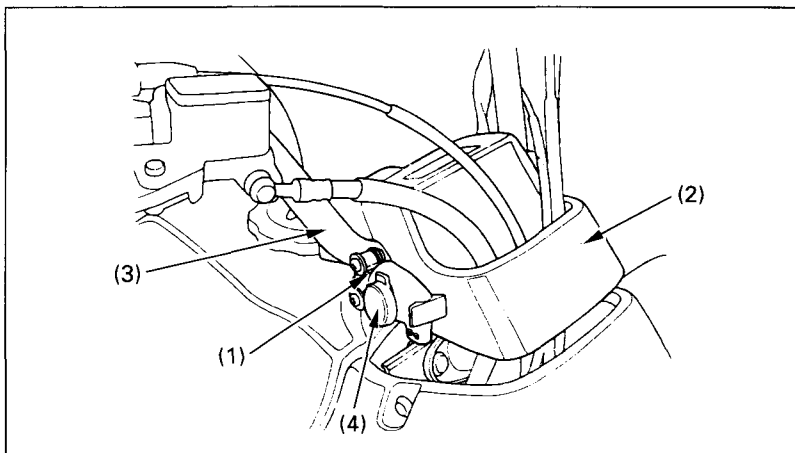

Fig. 2-24 (1) 12 V DC receptacle (3) Right handlebar
The DC receptacle (1) (Fig. 2-24) is attached to the right handlebar, near the handlebar cover (2). The receptacle provides 12 V DC power at a maximum of 180 watts (15 amps). If you exceed this limit, you may blow the fuse. (For information on fuses, and how to replace a fuse, see pages 117–118).
(2) Handlebar cover (4) Special DC plug
Electrical accessories may be connected to the receptacle by using the special DC plug (4) (Fig. 2-24) that comes attached to the receptacle. Be sure to use only accessories that are designed for 12 V DC power.
1. Remove the plug (4) from the receptacle (1) (Fig. 2-24).